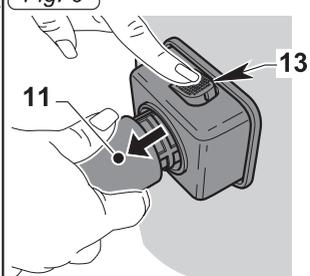

Fig. 8
- Join the two rigid extensions (17-18 Fig. 8), aligning the reference points (19-20 Fig. 8), if applicable.
- Connect the two rigid extensions (17-18 Fig. 8) by aligning the two reference points (19-20 Fig. 8).